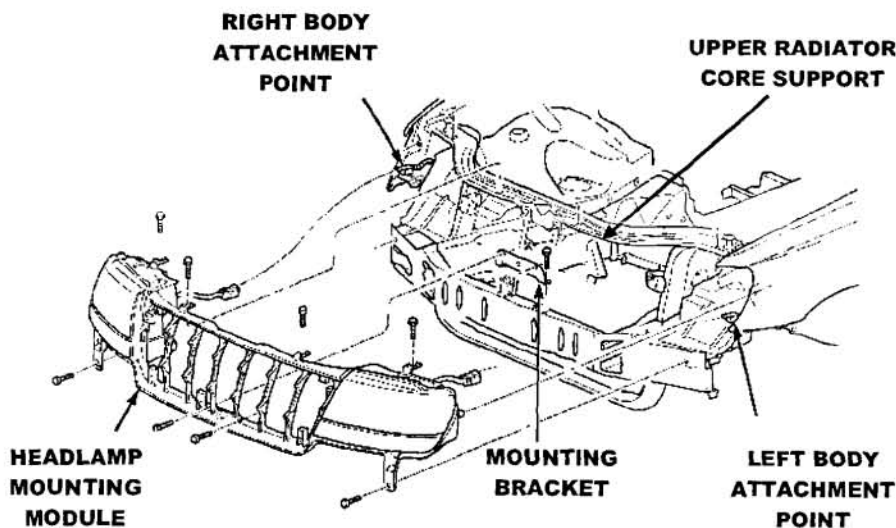

Figure 3
12. Remove the Headlamp Mounting Module (HMM) as follows (Figure 3):
13. Remove the upper radiator core support (Figure 3).
23. Install radiator core support and tighten the bolts to 90 in. lbs. (10 N·m) (Figure 3).
- b. Push the far ends of the HHM retainers into the right and left body attachment points and lock the fastener on the HHM (Figure 3).